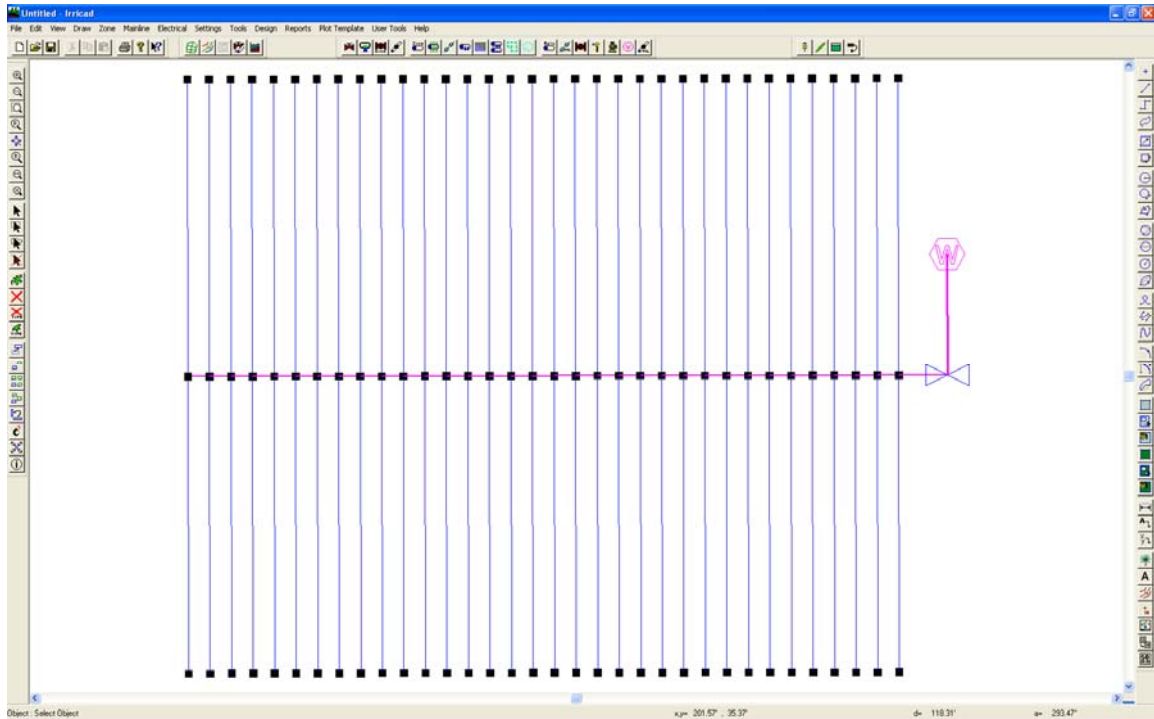

Figure SD 3
12. Now select *Mainline/Pipe*. Leave the pipe as **Computer Selected** at **0 "Depth"**. Click *[OK]*. Connect the mainline pipe to the control valve with a left-click and draw upward for approximately **33ft (10m)**. Left-click to place the end then *Right-click/Restart*. Select *Mainline/Water Supply* and place on the end of the mainline pipe with a left-click as in Figure SD 3. Leave the Water supply details as the default; simply click *[OK]*.